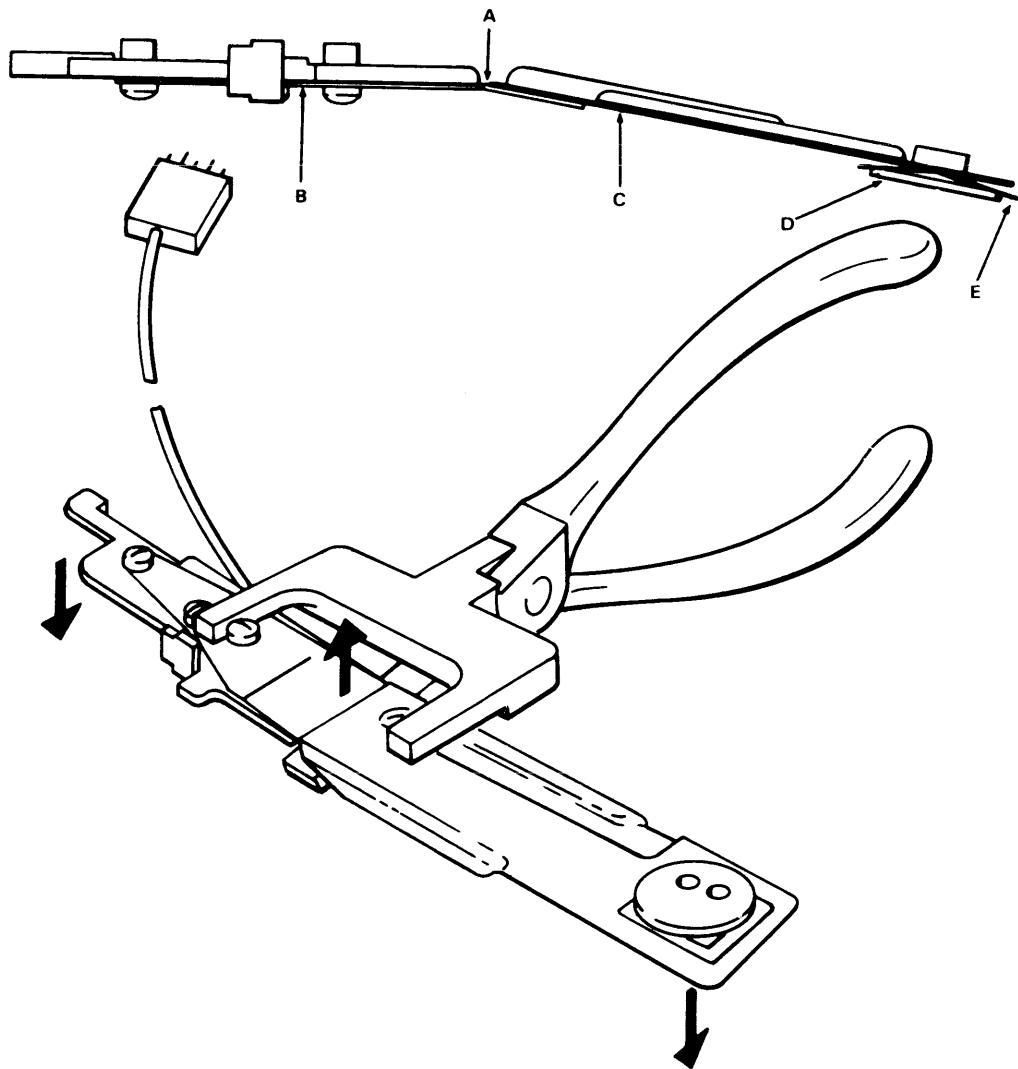

FIGURE 5-12. PRELOADING THE HEAD-ARM ASSEMBLY FOR INSTALLATION
4. Grip the head-arm assembly at points A, B, and C (Figure 5-12) with the Memorex Head-Arm Assembly Replacement (Preloader) Tool (P/N 200945).
Do not touch the head shoe face or press against the flexure. Refer to Figure 5-12, points D and E. Even slight pressure against the flexure could bend it and impair the head's flying attitude.